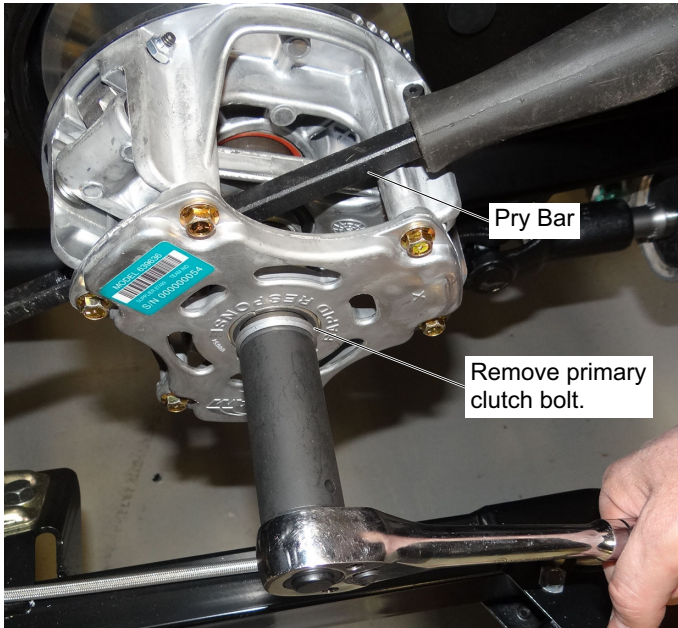

Fig. 3 Primary Clutch Removal
2. Thread the bolt inward to spread the clutch sheaves apart. At this point the belt will become loose enough to be rolled off the edge of the clutch (Ref. Fig. 3).